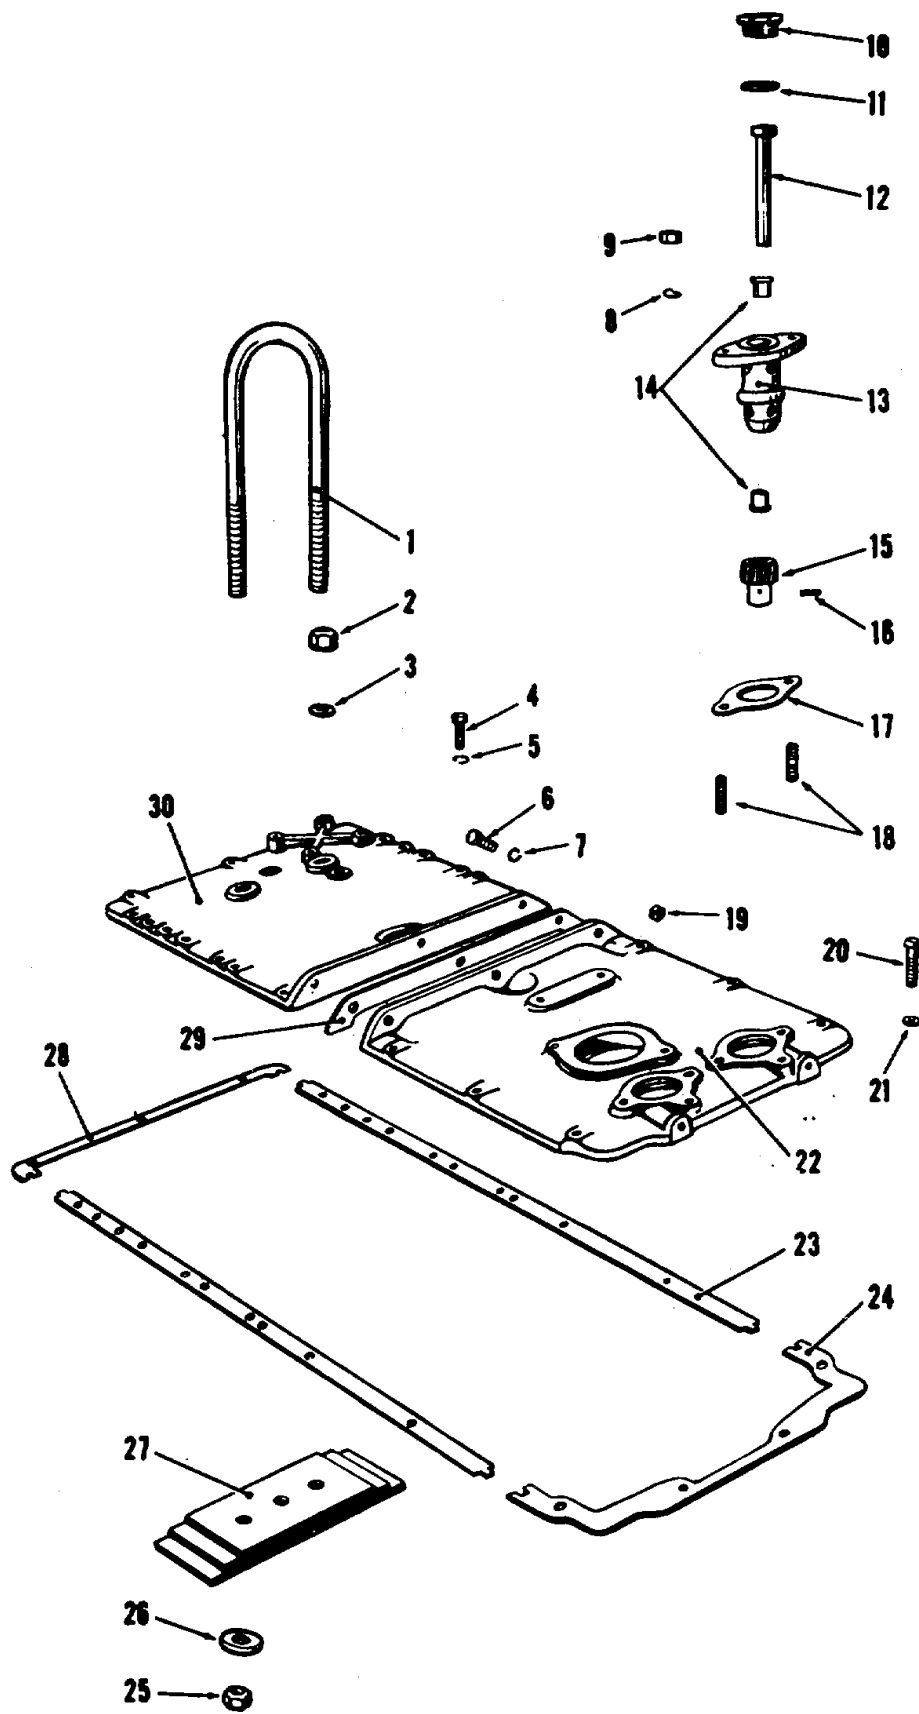

Figure 97. Exploded view of Crankcase covers, lifting bail, and tachometer drive.
a. *Removal* (fig. 97). Before taking off the crankcase covers, the following items must be removed: governor (par. 110a), distributor (par. 97a), water pump (par. 193), intake manifold (par. 120a), carburetor (par. 78a),